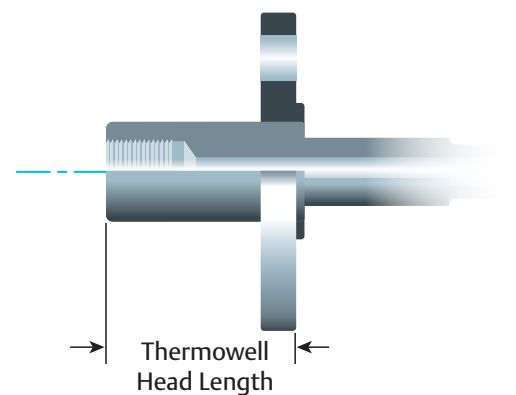

Figure 4-23: Lagging Dimension
For a process temperature of 540 °C (1004 °F), an extension length of 91.4 mm (3.6 inches) yields a housing temperature rise (R) of 22 °C (72 °F), providing a safety margin of 23 °C (73 °F). A 152.4 mm (6.0 inch) extension length (R = 10 °C (50 °F)) offers a higher safety margin (35 °C (95 °F)) and reduces temperature-effect errors, but would probably require extra transmitter support. Gauge the requirements for individual applications along this scale. If a thermowell with lagging is used, the extension length may be reduced by the length of the lagging. See Figure 4-23.